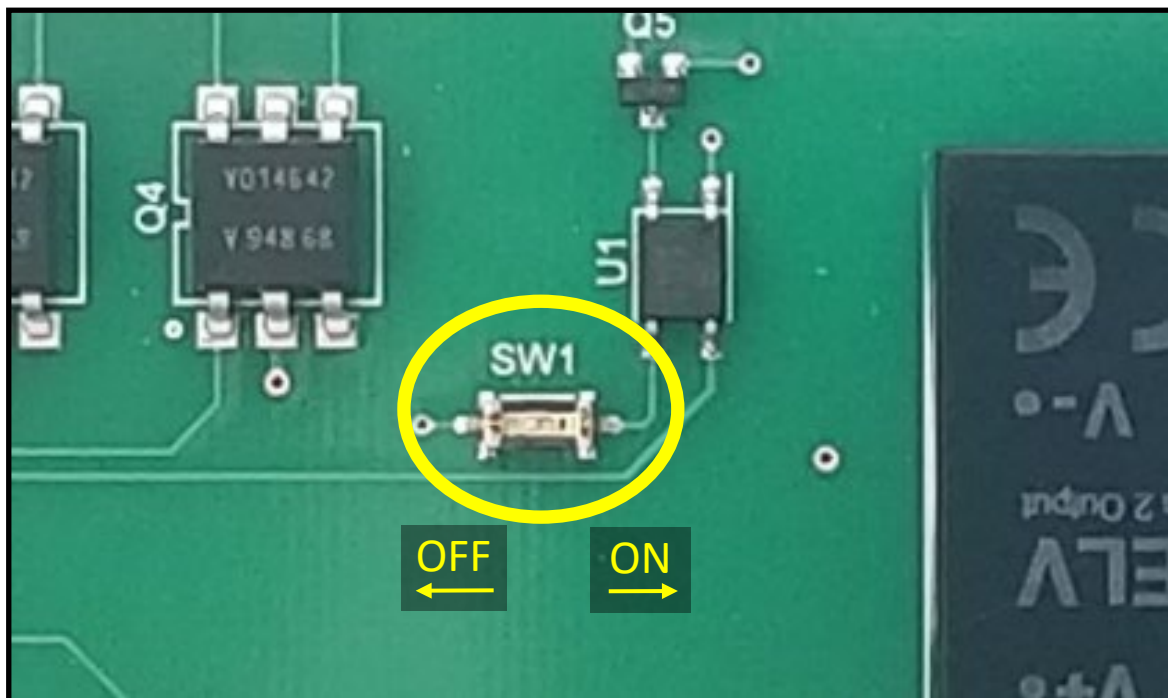

Figure 3
4. Flip the Relay Activation Switch to the "ON" position as indicated in Figure 3.
4. Flip the Relay Activation Switch to the “OFF” position as indicated in Figure3.